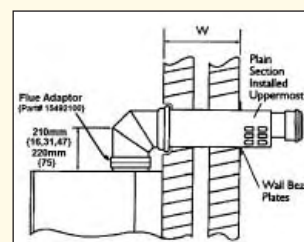

Fig 11.4c
- 11) Locate concentric tubes into bend and gently push fully home. Ensure that the plain section of the external part of the air inlet tube is located uppermost. See fig 11.4c.
- 12) Fix internal and external wall bezel plates with fixings provided. See fig 11.4c.